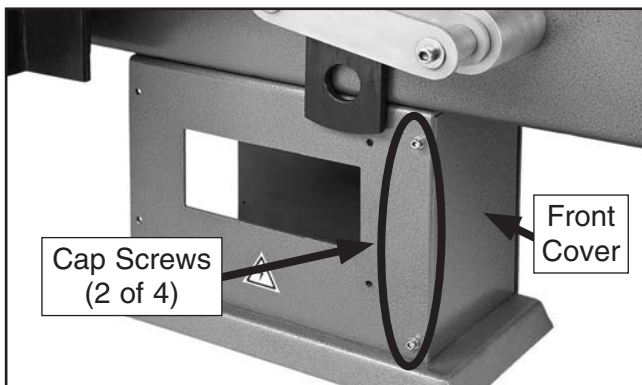

Figure 8. Location of column front cover and securing cap screws.
6. Remove column front cover by removing the four cap screws that secure it (see **Figure 8**).